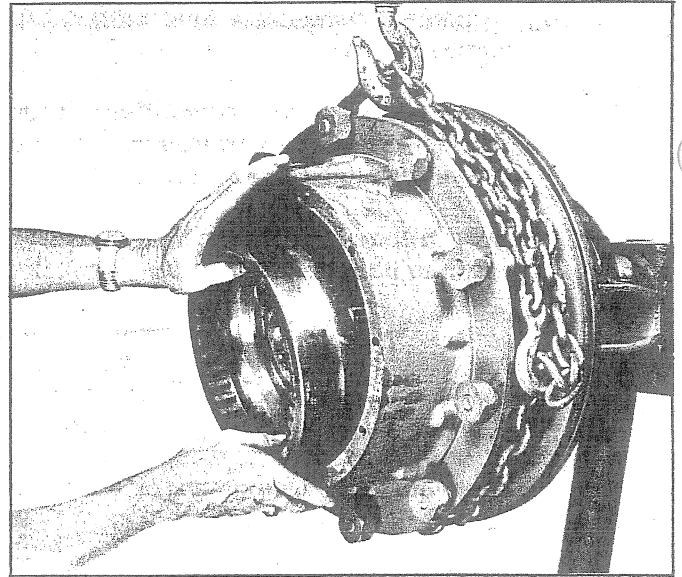

Fig. 81 - Removing Internal Ring Gear
8. Support the weight of the brake drum and hub assembly -- then remove internal planetary ring gear with its bearing, as shown in Fig. 81. If desired, removed bearing from ring gear.